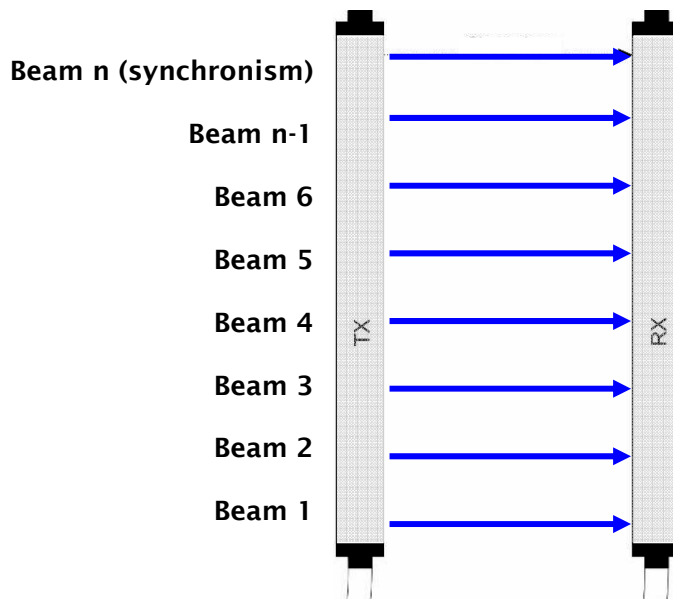

Figure 1
- If you are using the optical synchronism (first beam on the top, Figure 1), a flashing "o" on the Receiver's display means that the synchronism beam is not aligned.